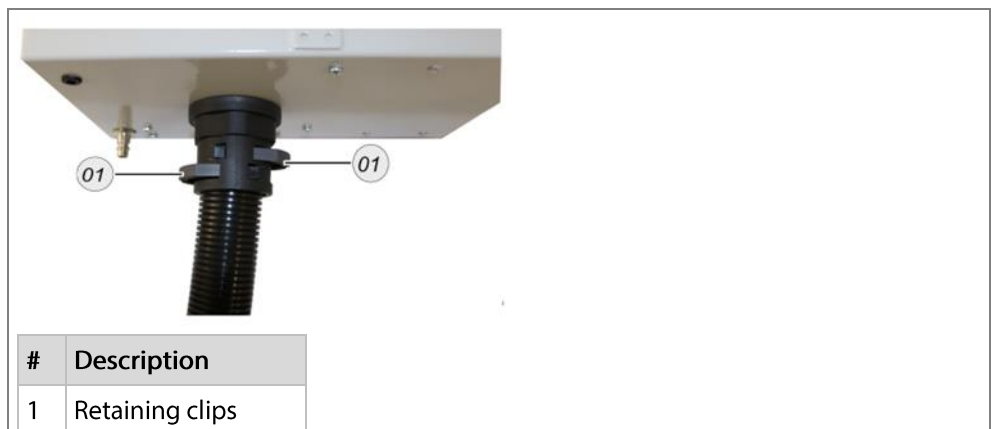

Fig. 7
- ▶ Connect the PTFE hose to the tube fittings (Fig. 7 (1-4)).
- ▶ Install the PTFE hose to the sample gas outlet of the HD-Probe (Fig. 7).